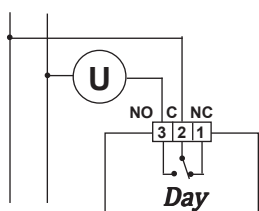

Fig.2a
- 1 • Making the electrical connection as per Fig. 2a/2b